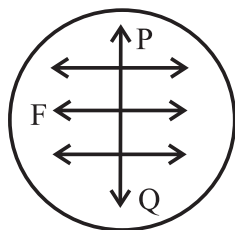

Fig. 2.16: Force of surface tension.
a) Surface Tension: As seen previously, the free surface of a liquid in a container acts as a stretched membrane and all molecules on the surface film experience a stretching force. Imagine a line PQ of length L drawn tangential to the free surface of the liquid, as shown in Fig. 2.16.